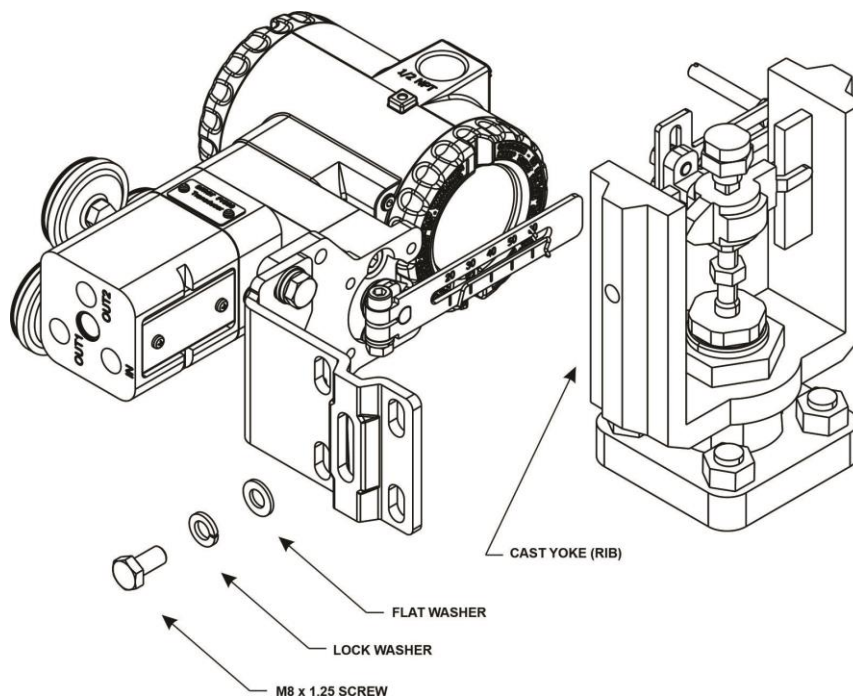

Figure 1.13 – Attachment to cast yoke with rib surface
- **For actuators with cast yoke with rib surface application**, using the M8x1.25 screw, lock washer, and flat washer. See figure 1.13.